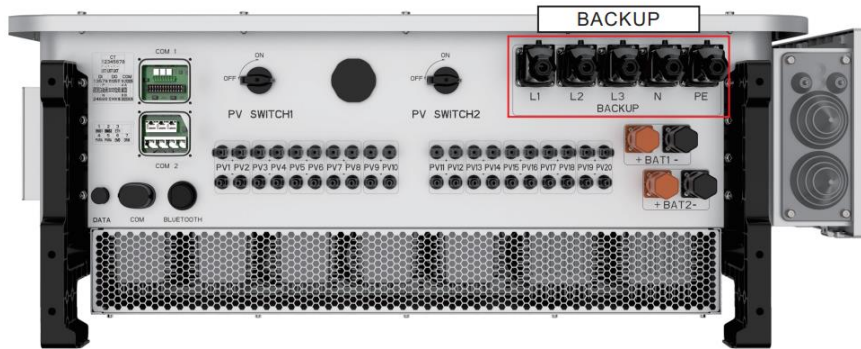

Figure 5-19 Backup Load Connection Position
1. The power cable of the user load is connected to the backup port of the hybrid inverter. The connection should be carried out according to Figure 5-19. The following is the interface definition: